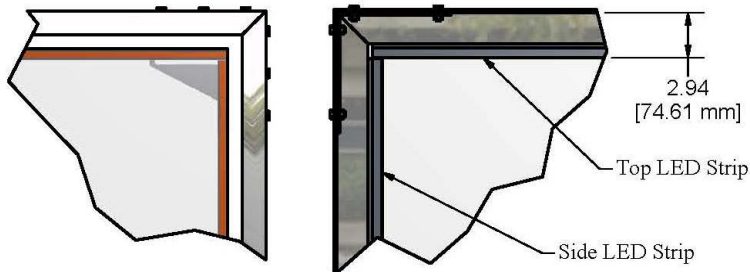

Figure 2
4. Repeat step 3 for the 2 bottom LED strips and then the 2 side LED strips. Refer to figures 2 and 3 for proper position of the sides to the top and bottom strip.